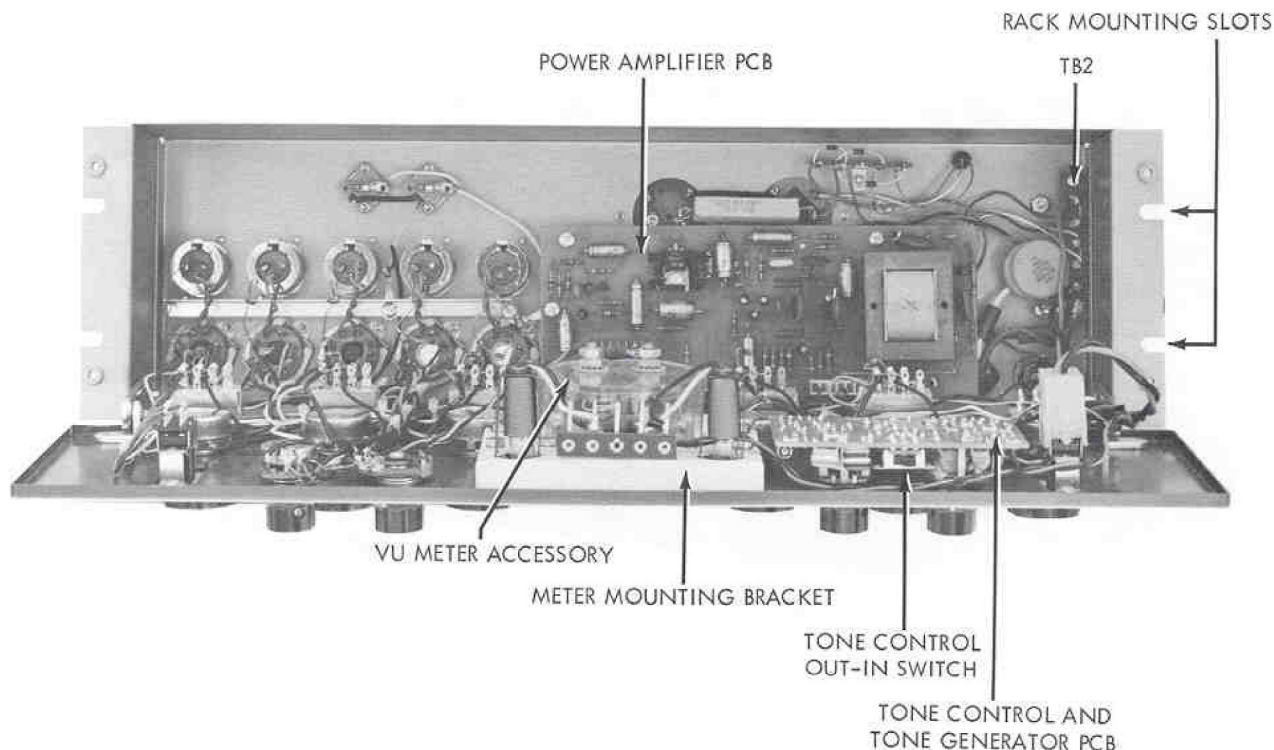

Figure 4. Front View with Hinged Panel Open
- Step 1. Remove four screws securing front panel, open and lower panel (see Figure 4).
- Step 2. Locate terminal board TB2 beneath power transformer T1 (see Figure 4).
TONE CONTROL OUT-IN switch	Disconnects HF and LF tone controls when tone control is inappropriate for application, such as Acousta-Voicing®.* Located on back of front panel on tone control PCB (see Figure 4).